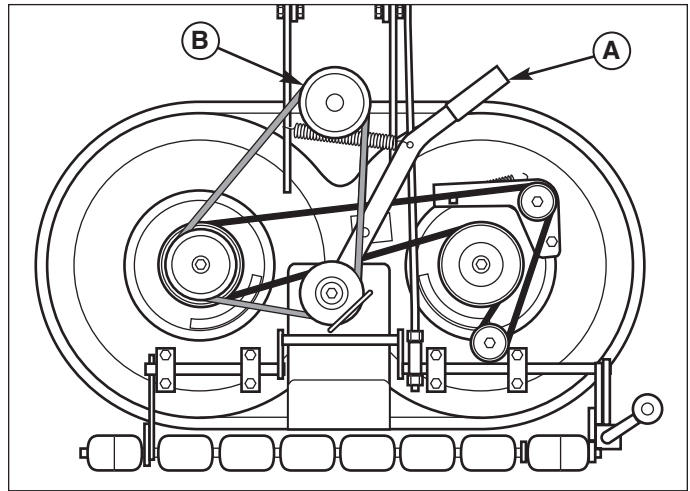

Figure 11. Removing & Installing Belt
5. Remove belt from PTO pulley (B, Figure 11).
6. See Figure 11. Move idler arm (A) to relieve belt tension. Install belt onto the PTO pulley (B).